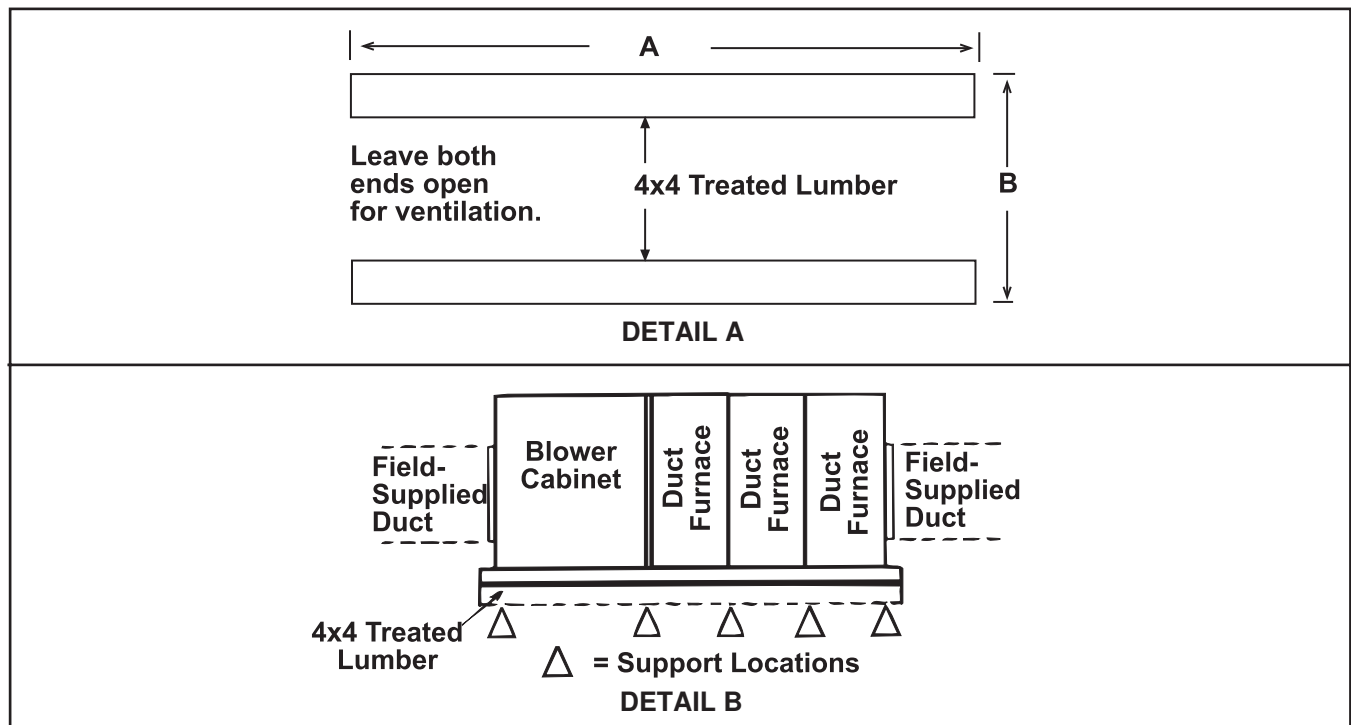

Figure 3. Field-Supplied Support Assembly (Refer to Table 7)
- The field-supplied, cross-support structure must be adequate for the weight of the system. Cross-supports should run the entire width of the system to support the rails at the recommended locations (see Figure 3, DETAIL A).
1. Cut treated 4 × 4 wooden rails for length in accordance with dimension A (see Figure 3, DETAIL A).
2. Space rails in accordance with dimension B (see Figure 3, DETAIL A) so that curb cap skirt fits over edge of boards with rails sitting inside horizontal length of curb cap. If rails are being laid directly on roof, position them as shown in Figure 3, DETAIL A).
3. If rails are not being placed directly on surface, install cross-supports underneath rails at ends of unit and at all cabinet joints (see Figure 3, DETAIL B).